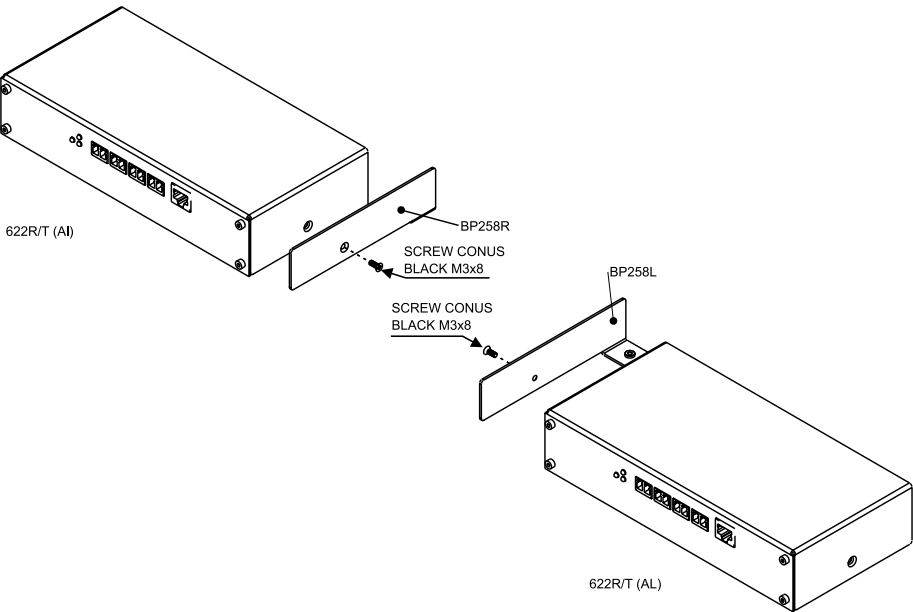

Figure 2: Connecting the Side Bracket
1. Connect the side bracket to the **622** unit, as illustrated in Figure 2.